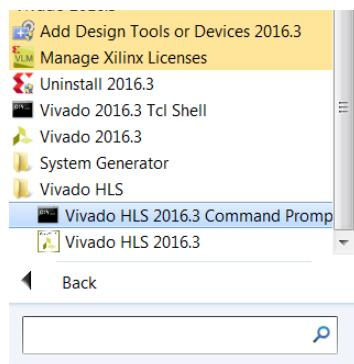

Figure 8-1: Vivado HLS Command Prompt
- On Windows use **Start > All Programs > Xilinx Design Tools > Vivado 2017.1 > Vivado HLS > Vivado HLS 2017.1 Command Prompt** (Figure 8-1).